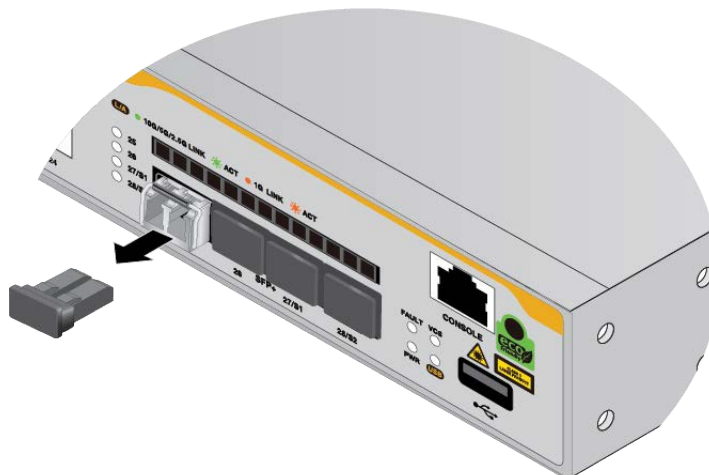

Figure 72. Removing the Dust Cover from an SFP or SFP+ Transceiver
5. Remove the dust cover from the transceiver. Refer to Figure 72.
1. If the SFP+ port has a dust cover, remove it. Refer to Figure 72 on page 108.